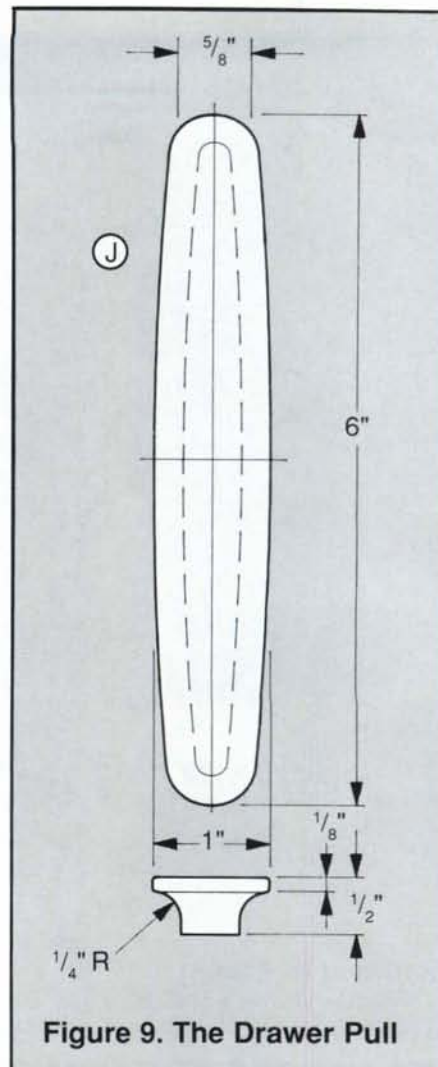

Figure 9. The Drawer Pull
routed pull (J) shown in Figure 9.
Choose a wood that either matches the drawer front or is in strong contrast to it, and cut a blank to the dimensions given in the cutting list. Set up a $\frac{1}{4}$ " radius cove cutter in your table-mounted router, with the depth at about $\frac{3}{8}$ " above the table surface. Use a fence with a gap in it, and position it flush with the guide pin on the bit. Use a miter gauge to help you hold the stock as you make the end-grain cuts first; then rout the edges by running them along the fence. Now bandsaw the top as shown in Figure 9, and then rout the edges again. For this second pass, you'll need to move the fence away and just rely on the bit's guide pin to follow the bandsawn shape. Since most of the waste was removed when you made the first pass with the fence, this second pass will be a very light cut.